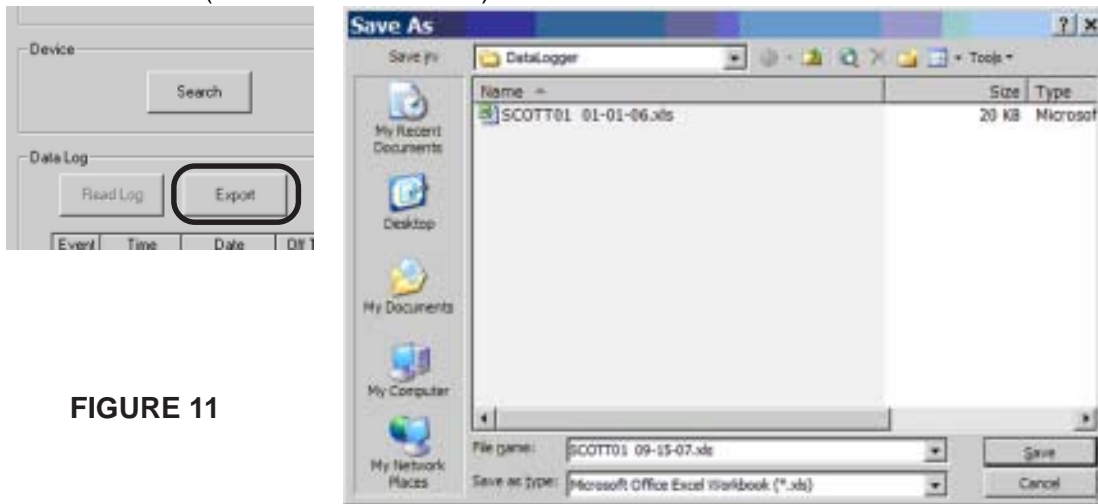

FIGURE 11
2. Name and save the file to a folder where you will be able to find it. See FIGURE 11.